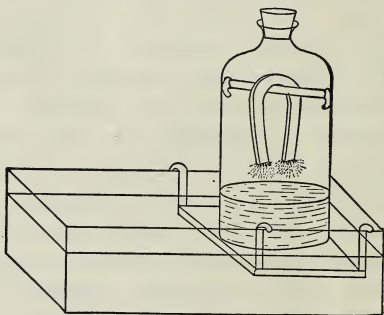

Fig. 8. Heating powdered iron in a limited volume of air.
11. Heating powdered iron in air. The next problem is to determine whether *all* of the air or only a *portion* of it is concerned in the conversion of a metal into its oxide. The experiment shown in Figure 8 yields an answer to this important question. A horseshoe magnet is hung on a glass rod in a bell-shaped glass jar. Bits of rubber tubing, slipped over the ends of the rod and crowded against the jar, hold the rod in place. The open end of the jar is immersed in water in a trough and rests upon a shelf. A supply of iron powder clings to the poles of the magnet. The burning of the iron is started by a red-hot iron wire, introduced through the neck of the jar, and then the stopper is replaced.